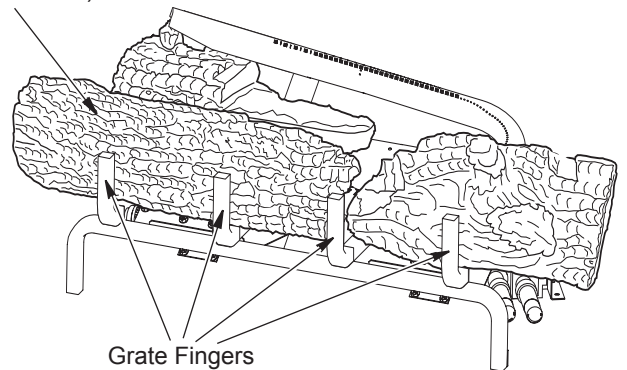

Figure 20 - Installing Front Left Log
3. Find the front left log (LMF24GTA/B or LMF24MOA/B models: D-059, LMF30GTA/B or LMF30MOA/B models: D-017, LMF36GTA/B or LMF36MOA/B models: D-025). See **Figures 20, 20A, and 20B**. The log has a rectangular stand off on the bottom that fits against the lip on the black metal base as shown in **Figure 20A, Page 12**. The bottom of this log has a slot that fits over the second bar on the grate as shown in **Figure 20B, Page 13**. Place the log on the base assembly as shown in figures.